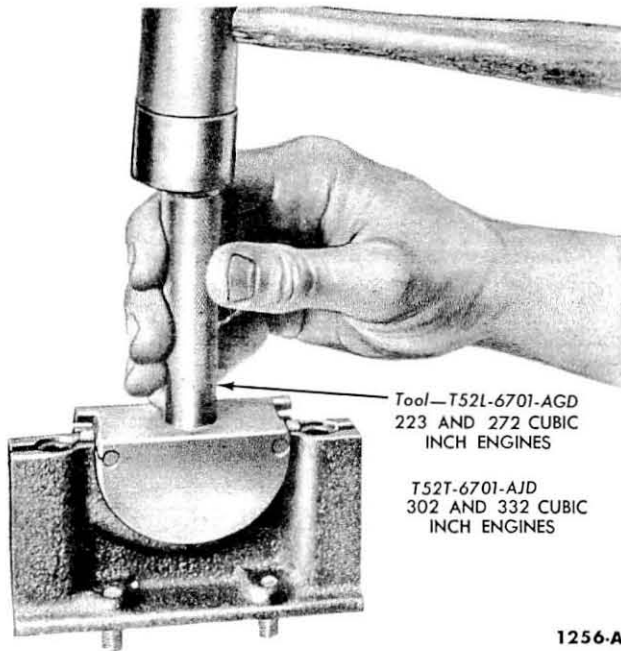

Fig. 36—Seal To Retainer Installation—Typical
3. Firmly pack the new journal seal in the retainer or bearing cap (Fig. 36). After installation cut the seals flush, if necessary.